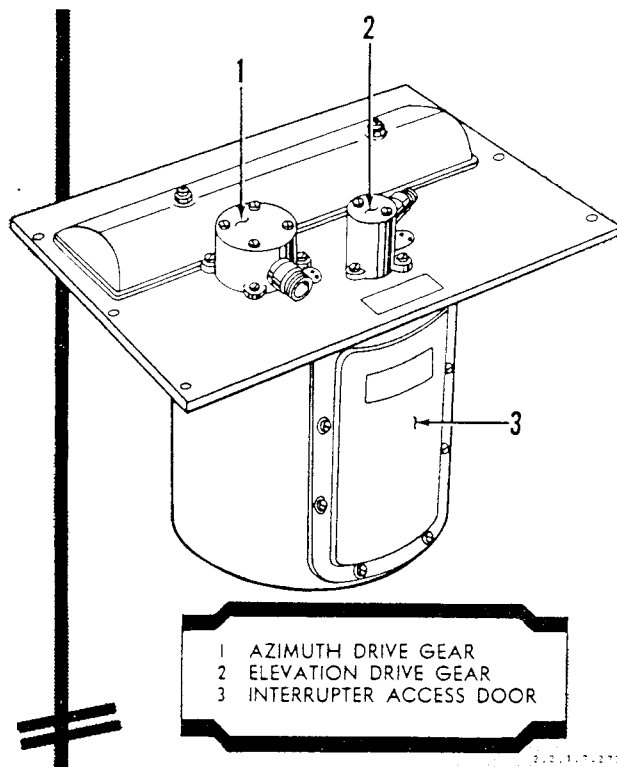

Figure 2-21 Fire Interrupter and Collector Ring Assembly
2-57. COLLECTOR RING ASSEMBLY. Control current is transmitted to the rotating turret by means of a collector ring assembly (figure 2-21), which consists of 26 slip rings, a top plate, brush holders, brushes and the necessary windings. Reverse gearing works against the drive gearing, causing the collector case and brushes to stand still while the slip rings rotate with the turret. The bottom plate of the collector case has one electrical connector, which is the only external electrical connection to the turret. The top plate has electrical connectors to supply power to other turret units.
2-58. FIRE INTERRUPTER ASSEMBLY. Interruption of machine gun fire in areas of wing and empennage surfaces and propeller arcs is accomplished by a fire interrupter assembly (figure 2-21) built around the collector ring. The interrupter consists of a drum with cams (patterns of the areas to be protected) on the outer surface and a moving support which carries two switches. One switch is wired in series with the firing solenoid of each gun. The switches are arranged to move with the cam drum in direct proportion to the movement of the guns in azimuth and elevation. This makes it possible to interrupt individually the fire of each gun.
- d. Remove access door on collector and interrupter assembly. (See figure 2-21.)